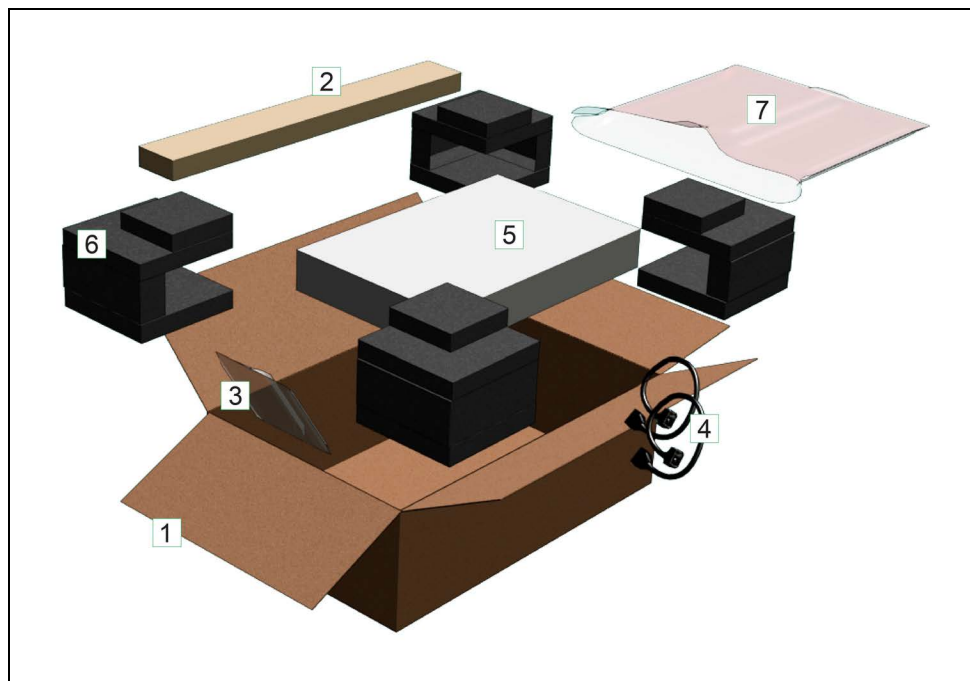

Figure 4-1. EM2100 Shipping Carton Content
2. Use only a safety box cutter to cut the packing tape. Do not use any other type of knife because you might damage the contents. Open the carton as shown in Figure 4-1.